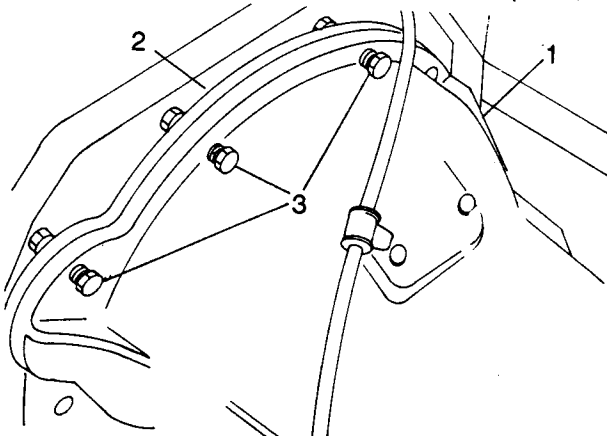

Fig B4.17
(2) Refer to Fig B4.17. When aligned, push the engine fully to the rear and secure the bell housing (1) to the flywheel housing (2), tightening the fixings (3) evenly.
(3) Lift the engine sufficiently to remove the packing or jack from beneath the gearbox.